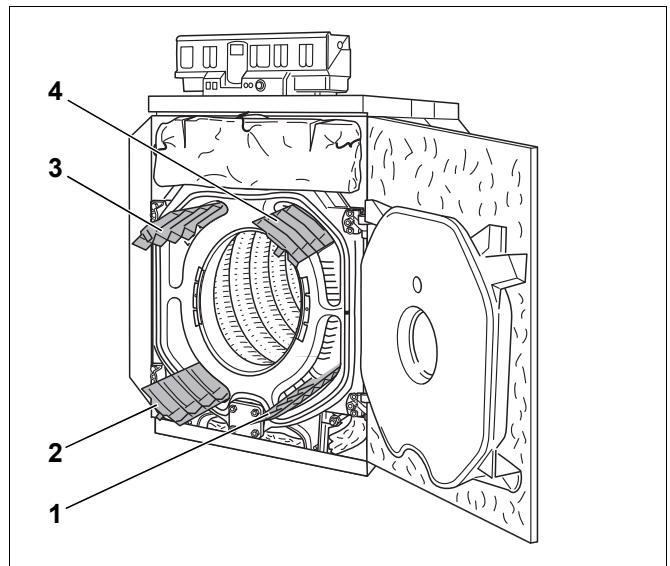

Fig. 72 Remove the hot gas baffle plates
- Remove the hot gas baffle plates by pulling them forward out of the hot gas flues (Fig. 72, [1] to [4]).